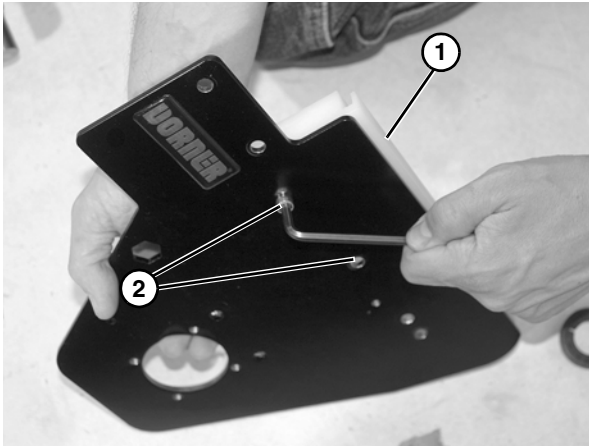

Figure 58
16. Check idler terminal assembly (**Figure 58, item 1**) for wear. If worn, remove two low head cap screws (**Figure 58, item 2**) and replace.